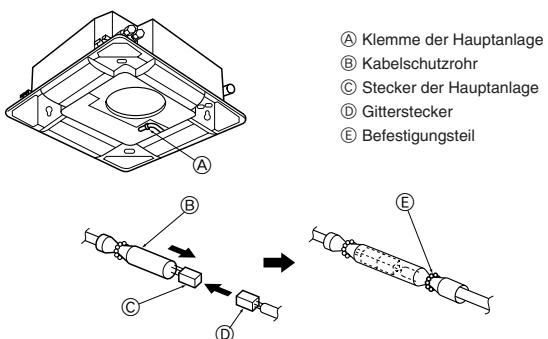

Fig. 5-8
5.4.4. Elektroanschlüsse (Fig. 5-8)